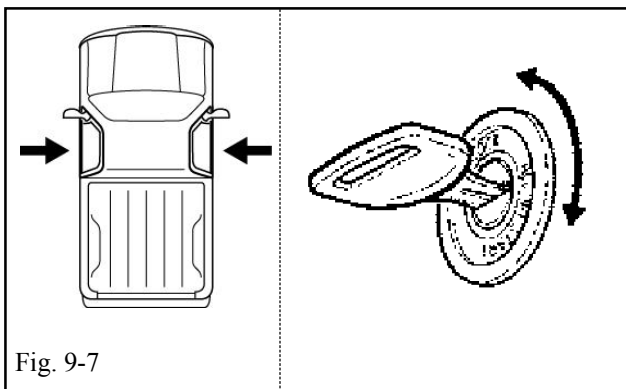

Fig. 9-7
- (i) Verify that all doors are closed. (Fig. 9-7)
- (1) Do not close the Hood.
- (j) Insert the key into the ignition and turn it from "OFF" to "ON" 5 times (ending at OFF). (Fig. 9-7)